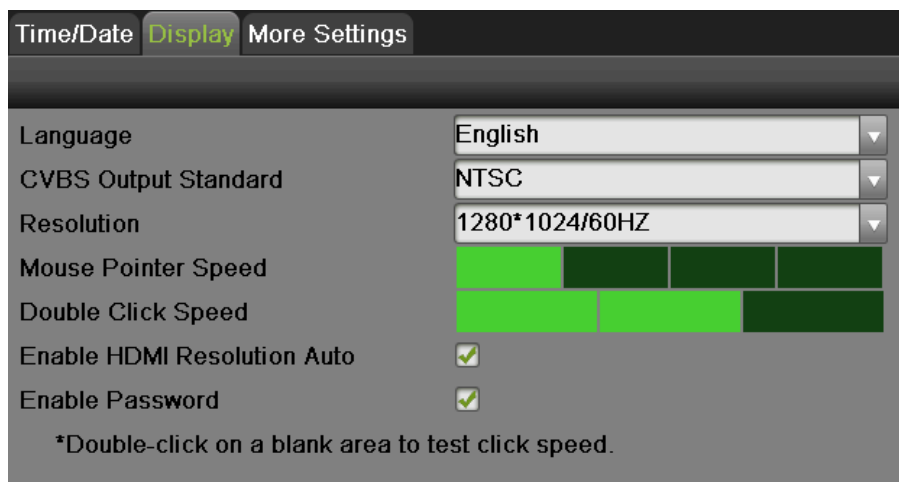

Figure 66 Display Menu
1. Set language, CVBS output standard, resolution and so on by going to Menu > System Configuration > General > Display, as shown in **Figure 66**.